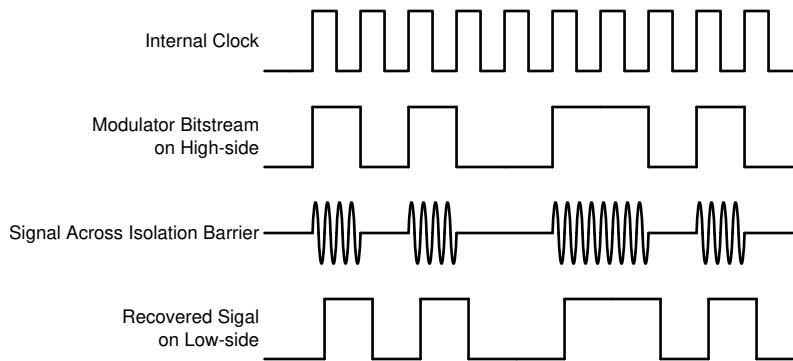

Figure 7-1. OOK-Based Modulation Scheme
The AMC1302 uses an on-off keying (OOK) modulation scheme, as shown in Figure 7-1, to transmit the modulator output bitstream across the SiO_2 -based isolation barrier. The transmit driver (TX) shown in the Functional Block Diagram transmits an internally-generated, high-frequency carrier across the isolation barrier to represent a digital one and does not send a signal to represent a digital zero. The nominal frequency of the carrier used inside the AMC1302 is 480 MHz.